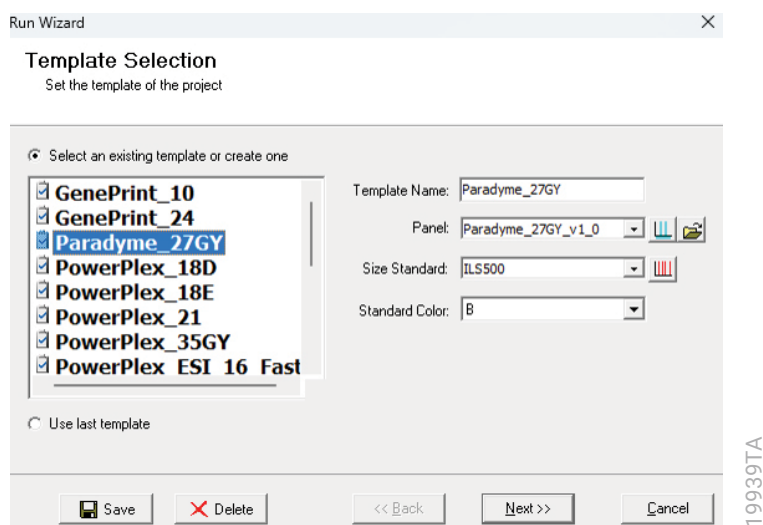

Figure 23. The 'Template Selection' window.
9. Select **Run** in the Magic Wizard or click the **Run Project** icon (green arrow) in the toolbar. The 'Template Selection' screen will appear (Figure 23). Select the Paradyme_27GY template and the settings shown in Figure 23. If the Paradyme_27GY template is not available, check the "Select an existing template or create one" box and provide a new name. Select the Paradyme_27GY panel that you created in Steps 6–8 from the panel drop-down field. The Size Standard must be ILS500 and the Standard Color must be Brown. Select **Save** to ensure this template will be stored among the other analysis run templates. Select **Next**.